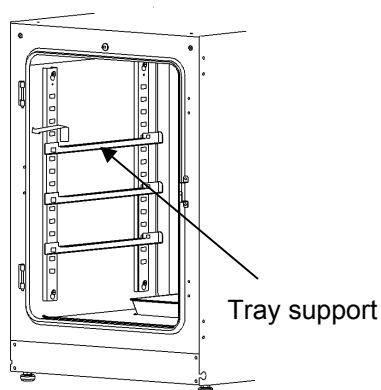

Fig.2
4. Lift the front of the tray supports and pull them out. (See Fig. 2.)
5. (MCO-18AC(UV) or when an optional UV system kit MCO-18UVS3 is installed)